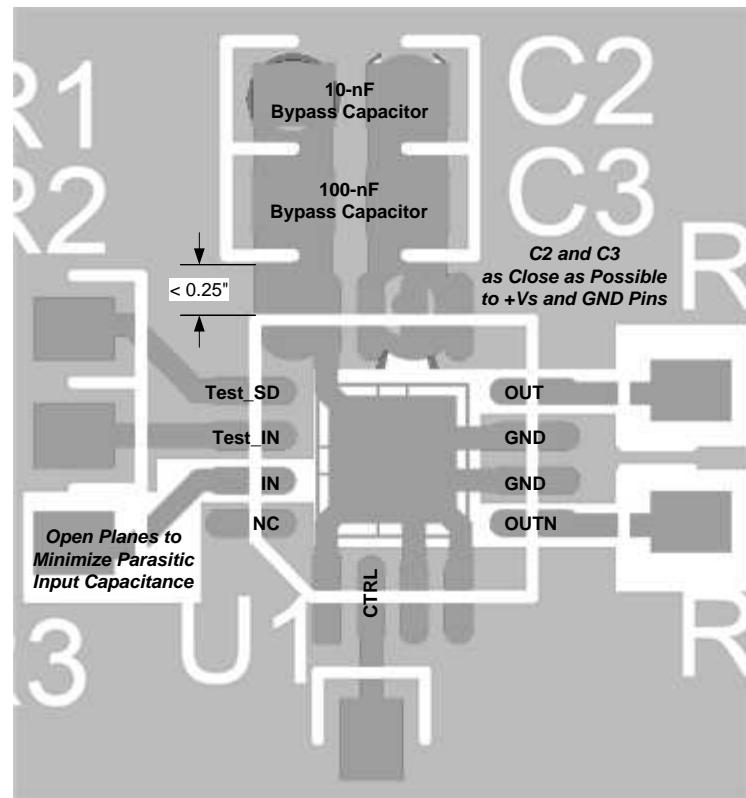

Figure 48. Layout Example
- b. **Minimize the distance** ($< 0.25"$) from the power-supply pins to high-frequency $0.1\text{-}\mu\text{F}$ decoupling capacitors, as shown in Figure 48. At the device pins, make sure that the ground and power-plane layout are not in close proximity to the signal I/O pins. Avoid narrow power and ground traces to minimize inductance between the pins and decoupling capacitors. Always decouple the power-supply connections with these capacitors. An optional supply decoupling capacitor ($0.1\text{ }\mu\text{F}$) across the two power supplies (for bipolar operation) improves second-harmonic distortion performance. Use larger ($2.2\text{ }\mu\text{F}$ to $6.8\text{ }\mu\text{F}$) decoupling capacitors, effective at lower frequencies, on the main supply pins. These capacitors can be placed somewhat farther from the device and can be shared among several devices in the same area of the PC board.